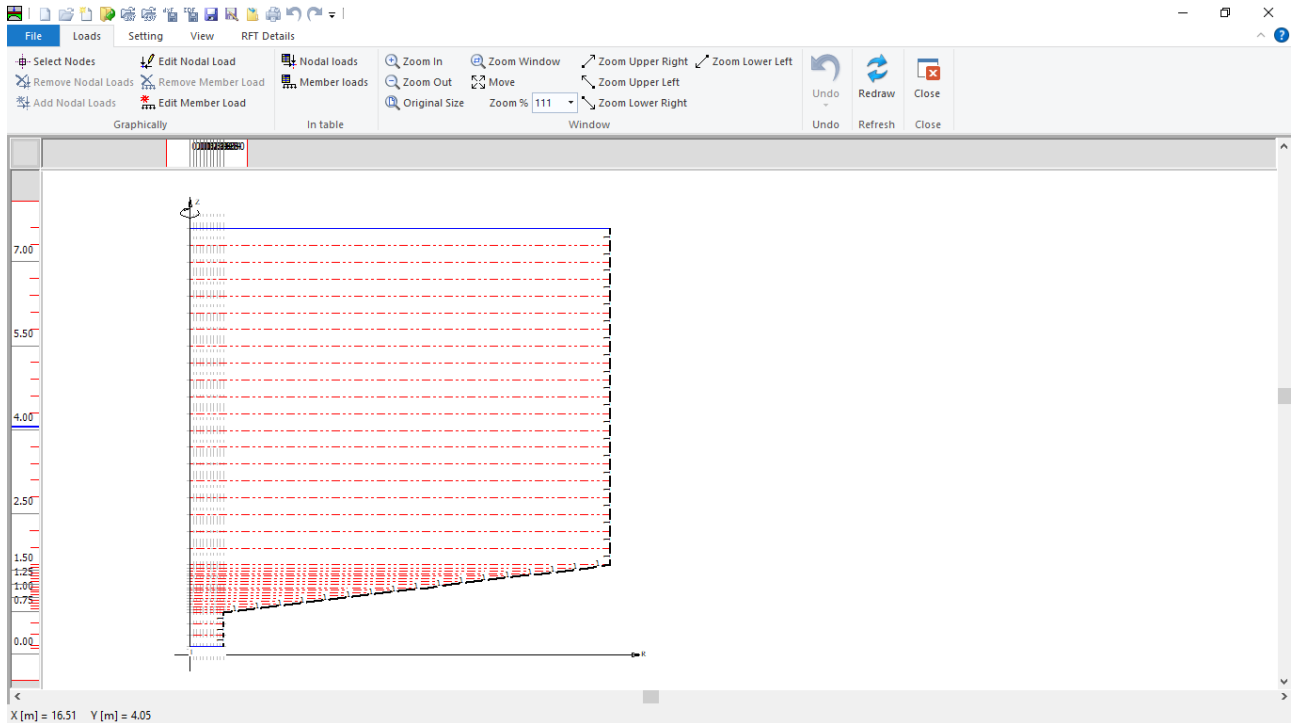

Figure 7.17 "Loads" Window
To define the loads, choose "Loads" command from "Data" Tab. The following window in Figure 7.17 appears.
In *ELPLA*, entering loads may be carried out either numerically (in a table) or graphically using the commands of "Loads" Tab in Figure 7.17. In this example, there is not applied load, as the vertical load has been already defined by the unit weight of the tank, while the hydrostatic pressure on the tank wall is defined by the unit weight of water.
- Choose "Save" command from "File" menu in Figure 7.17 to save the load data
- Choose "Close" command from "File" menu in Figure 7.17 to close the "Loads" window and return to *ELPLA* main window